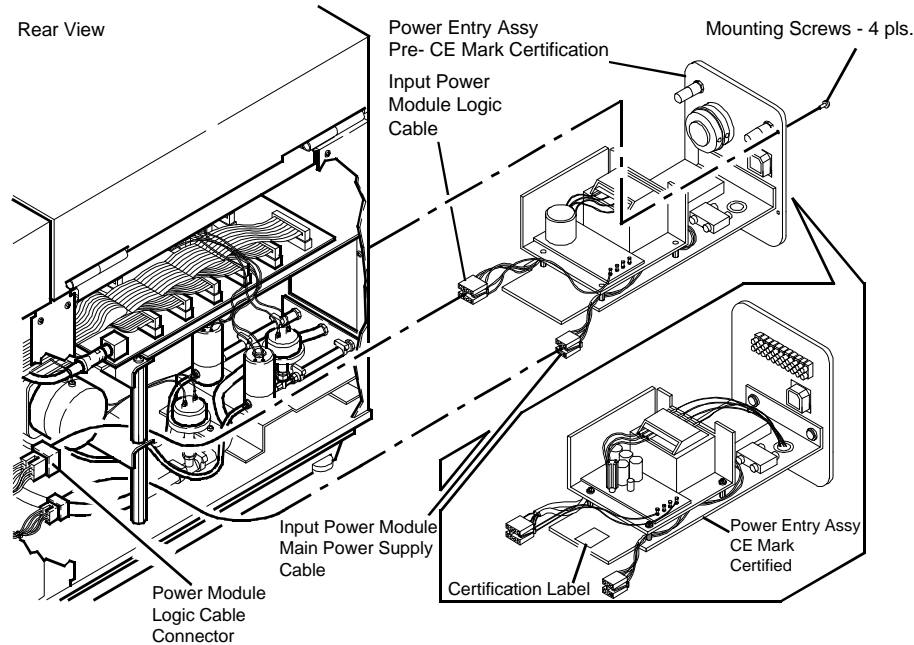

Figure 1
- d) Disconnect, then remove the Non-CE Mark Power Entry from the PPC instrument. (*Figure 1 shows both the CE and Non-CE Mark Power Entry configurations for further clarification*)
- a) Referencing Figure 1, locate the Input Power Module Logic Cable (8-pin, female connector) assembly connected to the Non-CE Power Entry assembly removed in step 1D.
- c) Referencing back to **figure 1**, locate the Power Module Logic Cable (8-pin, male) assembly in the PPC instrument, that connects to the Power Entry, Input Power Module Logic Cable assembly Jumpered in Step 2.